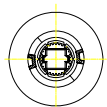

Fig .11
C. See Fig. 11. This is the hottest position. If the Rotational Limit Stop on this position, the mixing water temperature is 38°C (approximate).